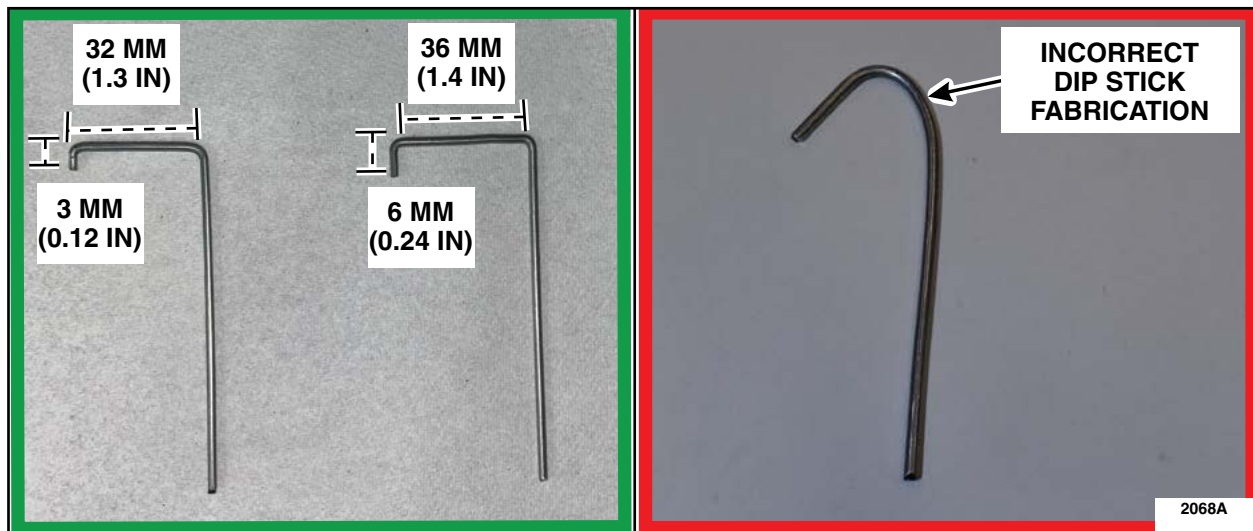

FIGURE 1
3. Locally obtain a wire coat hanger. Fabricate a rear differential fluid level dip stick. See Figure 1.